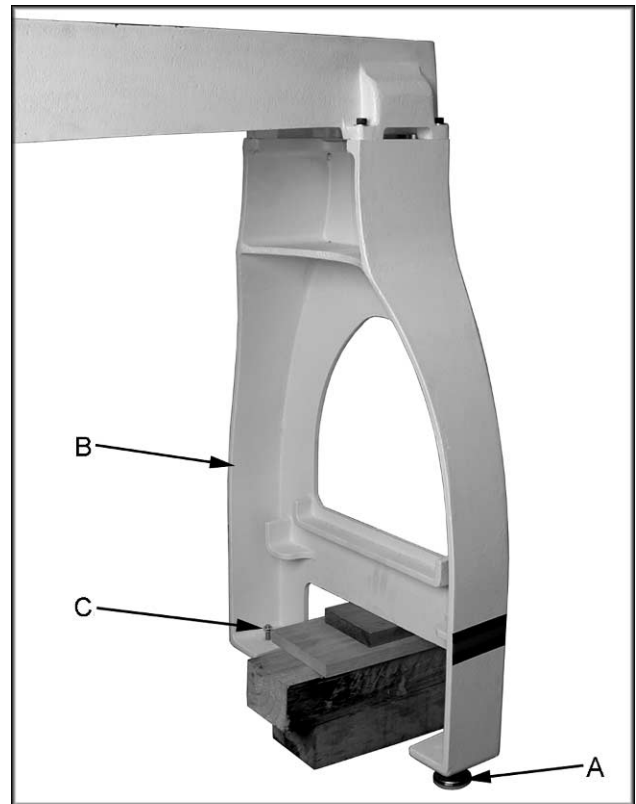

Fig. 2
3. Lift the tailstock end of the lathe up far enough to slide a few pieces of scrap wood under the leg, see Figure 2.
4. Thread adjustable feet (A, Fig. 2) into stand leg (B, Fig. 2). There is a flat spot on the shaft near the foot that will accommodate a wrench. Thread a hex nut (C, Fig. 2) onto shaft and leave loose for now.